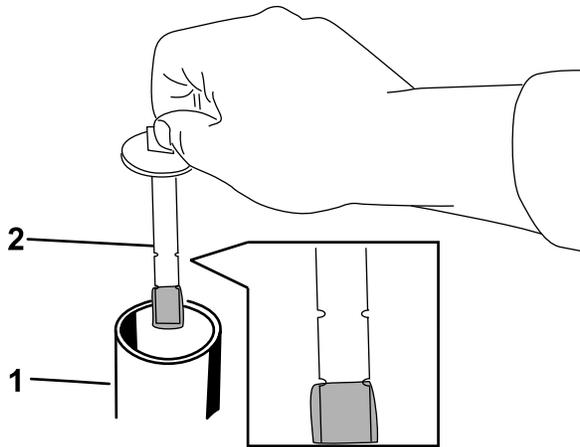

Figure 84
5. Remove the hydraulic-tank cap and dipstick (Figure 84).